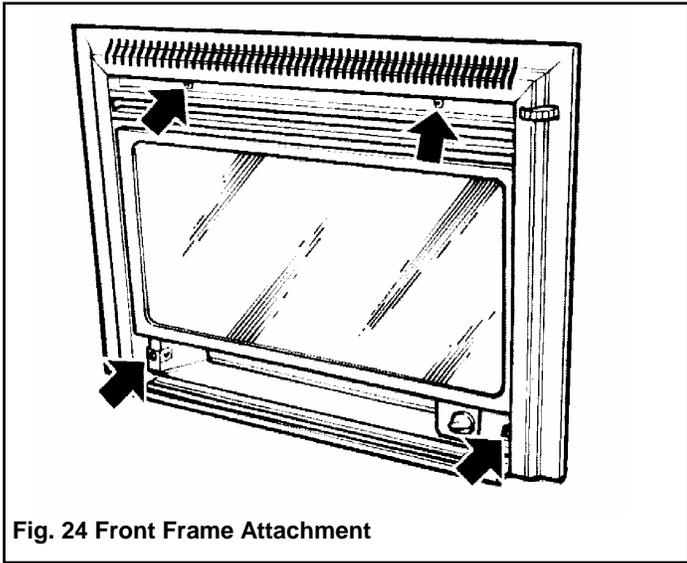

Fig. 24 Front Frame Attachment
5.10.1 Attach the front frame to the appliance with two screws previously removed at the top and one near the bottom corners each side (see fig. 24).
5.11.1 Attach the front frame to the appliance with two screws at the top and one near the bottom corners each side (see fig. 24).